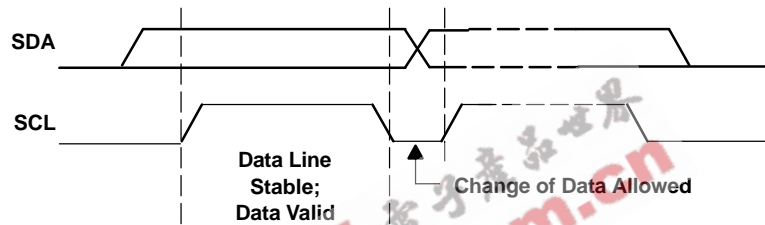
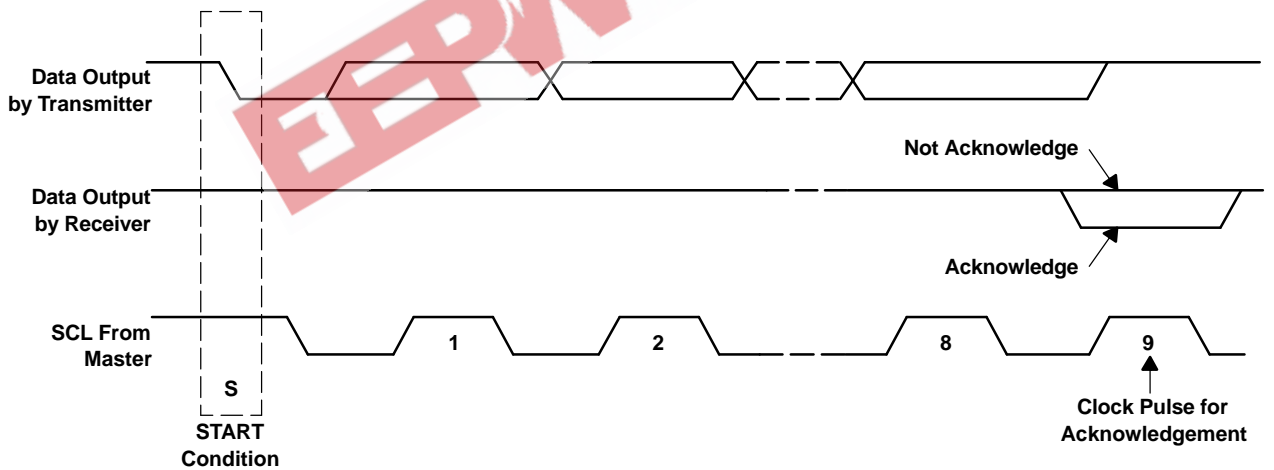

Figure 48. Bit Transfer on the I²C Bus
Figure 49. Acknowledge on the I²C Bus
- The master then generates the SCL pulses, and transmits the 7-bit address and the *read/write direction bit* R/\bar{W} on the SDA line. During all transmissions, the master ensures that data is *valid*. A *valid data* condition requires the SDA line to be stable during the entire high period of the clock pulse (see Figure 48). All devices recognize the address sent by the master and compare it to their internal fixed addresses. Only the slave device with a matching address generates an *acknowledge* (see Figure 49) by pulling the SDA line low during the entire high period of the 9th SCL cycle. Upon detecting this acknowledge, the master knows that communication link with a slave has been established.